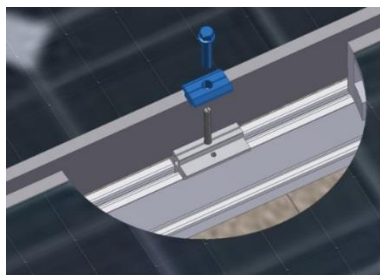

Fig. 21: Mid Clamp, Collar Nut and T Bolt
- Thread the 1/4" (7/16" socket head) collar nut onto the top of the T bolt as shown in **Fig. 21** below. After positioning the end clamp firmly against the PV panel frame, **tighten to 7.5 ft. lbs.**